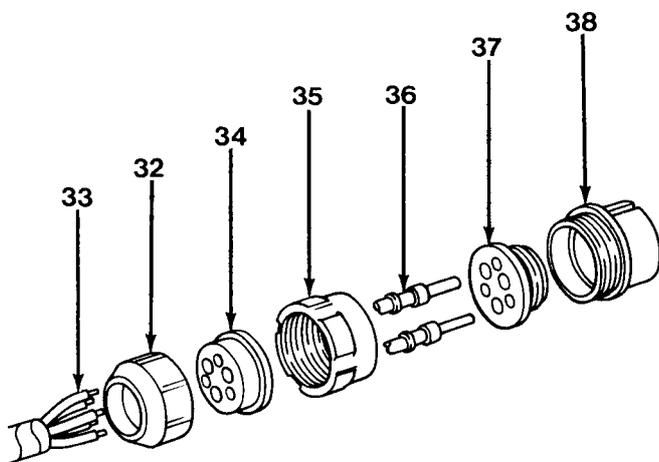

Figure 10-8
2. Unscrew nut (32, Figure 10-8) from shell assembly and slide back on cable.
3. Slide grommet (34) back on cable leads (33).
4. Slide coupling nut (35) off shell assembly,
5. Drive pin contacts (36) out through rear of insert (37) with pin extractor.
6. Push insert (37) out through rear of shell (38).
7. Unsolder cable leads (33) from pin contacts (36).